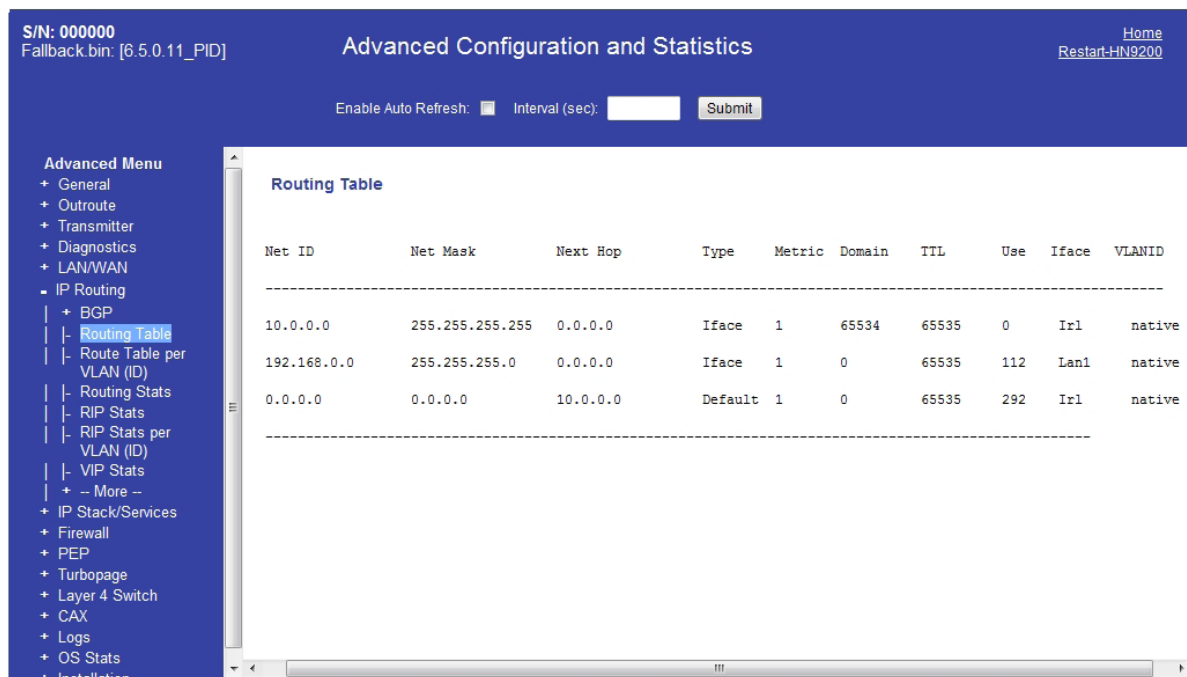

Figure 79: Advanced Pages example showing the Advanced menu
*Figure 79: Advanced Pages example showing the Advanced menu* on page 104 shows an example, one of the many available Advanced Pages. Other Advanced Pages are available through the Advanced menu in the left panel.